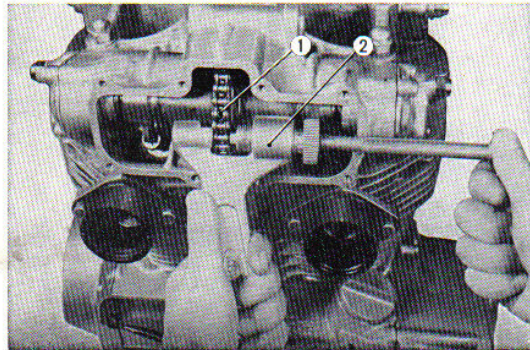

Fig. 3.15 Removing the cam chain
2. Disconnect the cam chain at the joint by using a cam chain cutter. (Fig. 3.15)